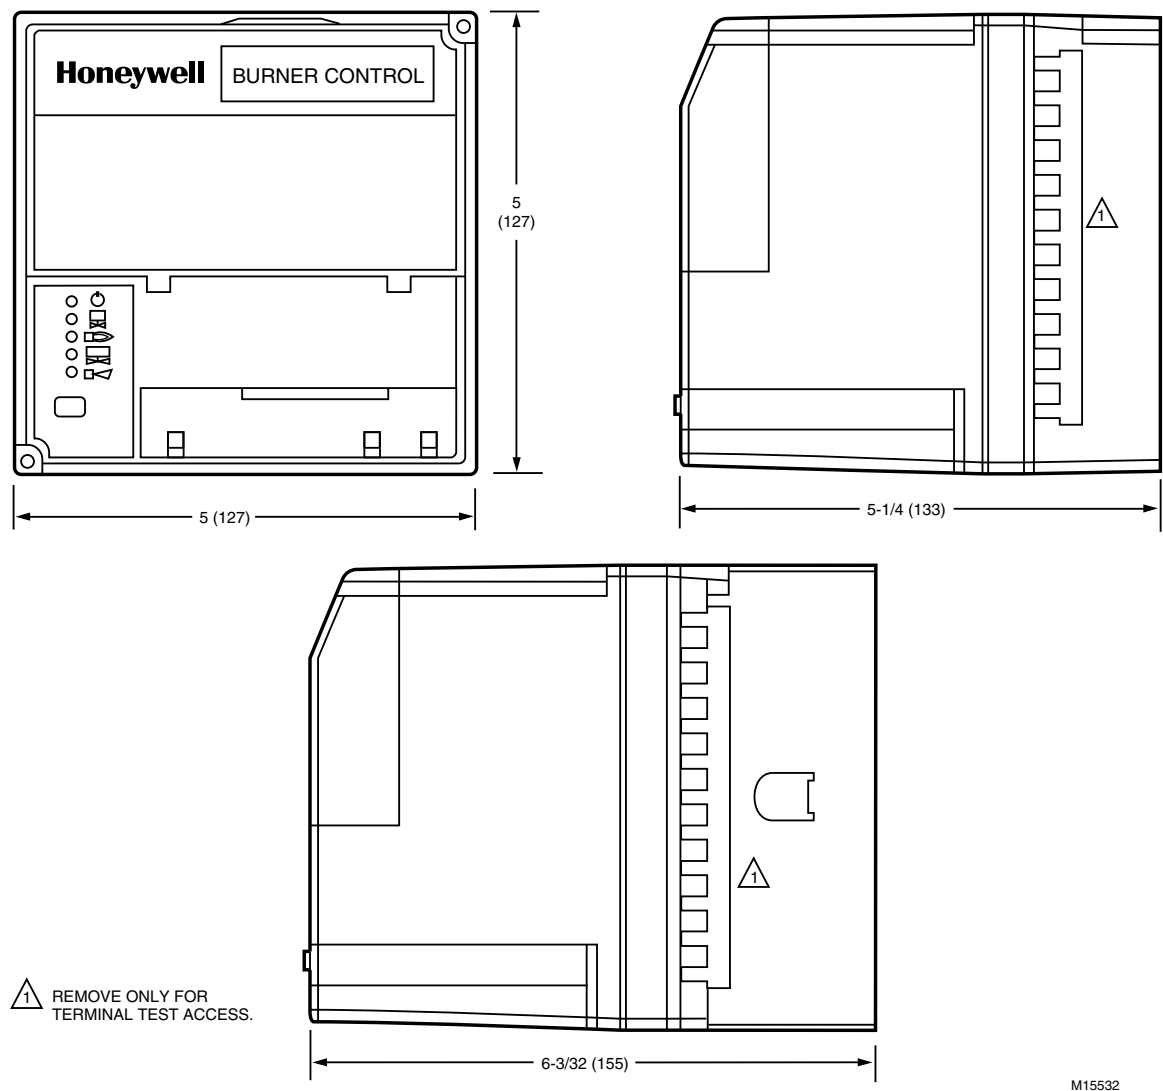

Fig. 1. Mounting dimensions of relay module and wiring subbase in in. (mm).
- Five sequence information light emitting diodes (LEDs) with symbols for Power, Pilot, Flame, Main, and Alarm (see Fig. 1).
**Dimensions:** See Fig. 1.